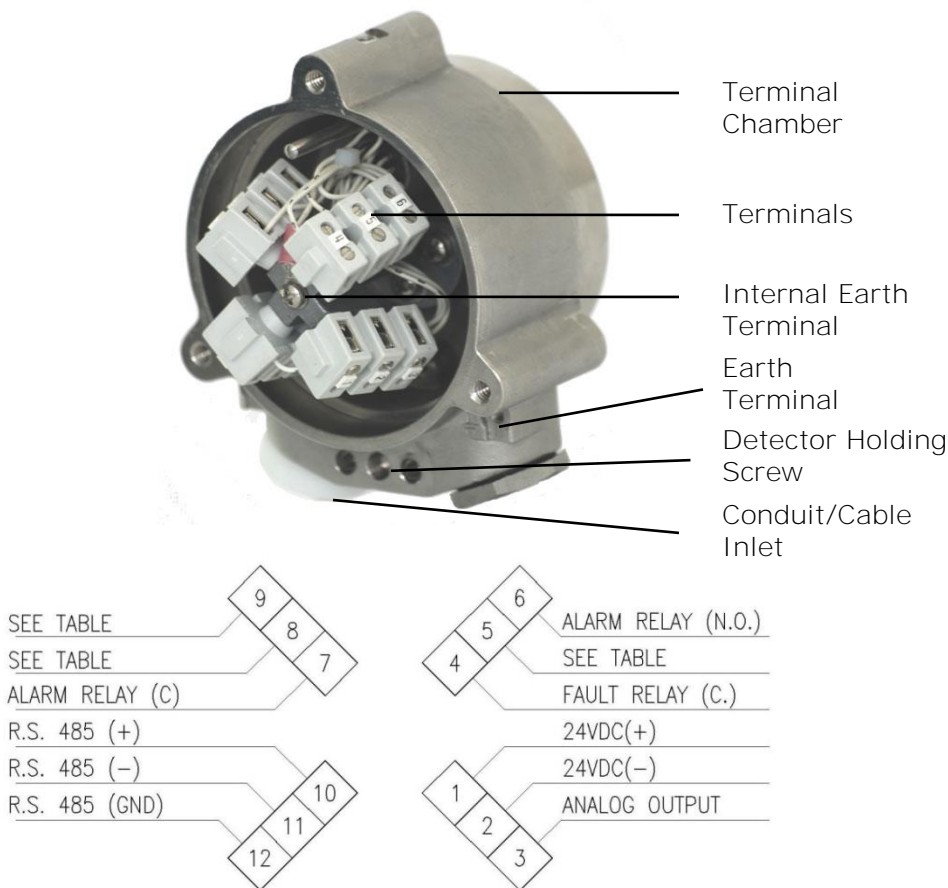

Figure 6: Detector with Cover Removed
This section describes how to connect the electric cabling to the detector (Figure 6).
- 5** Connect the wires to the required terminals on the Terminal Board according to the wiring diagram (Figure 6) and Table 13.
- 8** Check the wires for secure mechanical connection and press them neatly against the terminal to prevent them from interfering while closing the back cover (Figure 6).